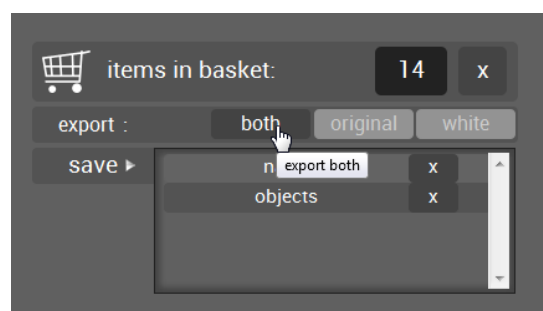

Fig. 5.1
For the calculation of a Color Correction Matrix spectral reflectance values are needed as training data. Usually the patches of a ColorChecker or ColorChecker SG are used as objects for this purpose. The corresponding files can be selected in the menu of the CCM calculation module (see chapter 4.4, item 3). You may also use individual training data received from the iQ in-situ database (<http://insitu.image-engineering.de>). In this database the spectral radiance of more than 2000 natural objects under various illuminations are available. Choose a couple of objects in the database and add them to the basket (see figure above). For example you may want to choose skin colors, select a couple of images from category “portrait”. A number of more than 10 objects are required for a sufficient estimation of the color correction matrices. Now export the spectral radiance values by clicking the “export → both” button (see fig. 5.1). The data is saved as a .csv file, which then needs to be copied to the directory “/calibration\_files /reflectance” in the camSPECS program directory in order to make it available for CCM calculation. After a restart of camSPECS the new radiance data is available in menu “Training data” in the CCM calculation module. After calculation and export to an XML file the resulting matrices may be evaluated in the CCM evaluation module (see chapter 4.5).